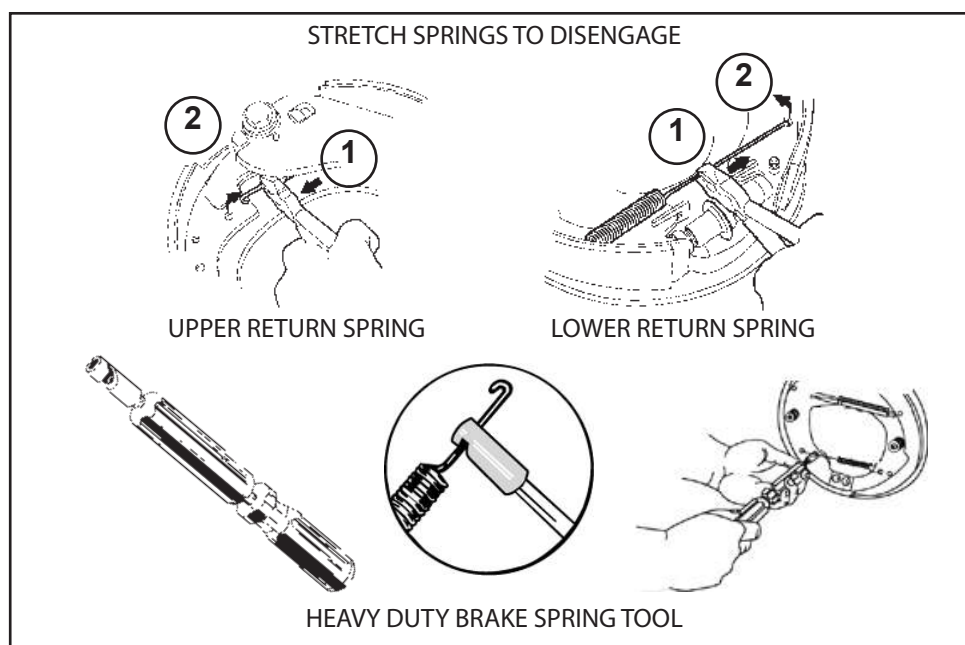

Figure 8. Shoe Return Spring Removal
8. Remove both shoe-return springs. Use pliers, vice-grips, or a heavy duty brake spring tool as shown in Figure 8.